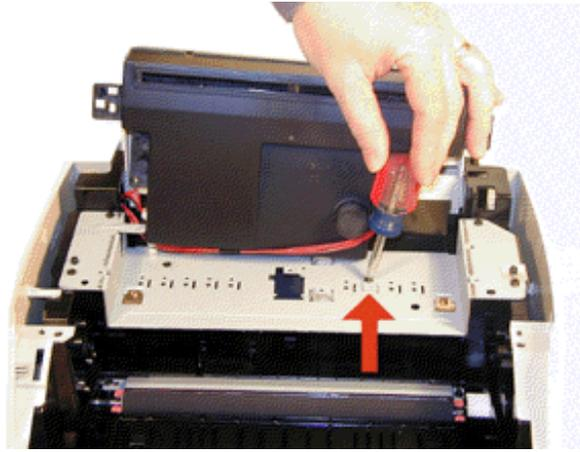

FIGURE 35
3. Remove the tab screw and tab. See Figures 35 and 36.